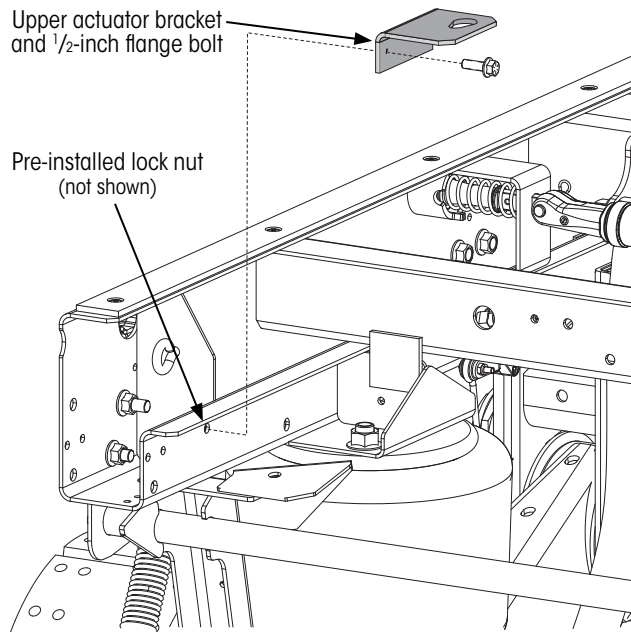

Figure 15: Installing actuator bracket
NOTICE: Prior to December 2015, the SURELOK actuator upper mounting bracket included two mounting holes. In Figure 15, the forward actuator bracket fastener has been excluded. If exists, the front mounting bolt is to be left vacant. If present on a pre-existing installation, remove and discard this bolt. DO NOT reuse.
1. Install upper actuator bracket (Figure 15) using only one 1/2-inch flange bolt and nut as shown.